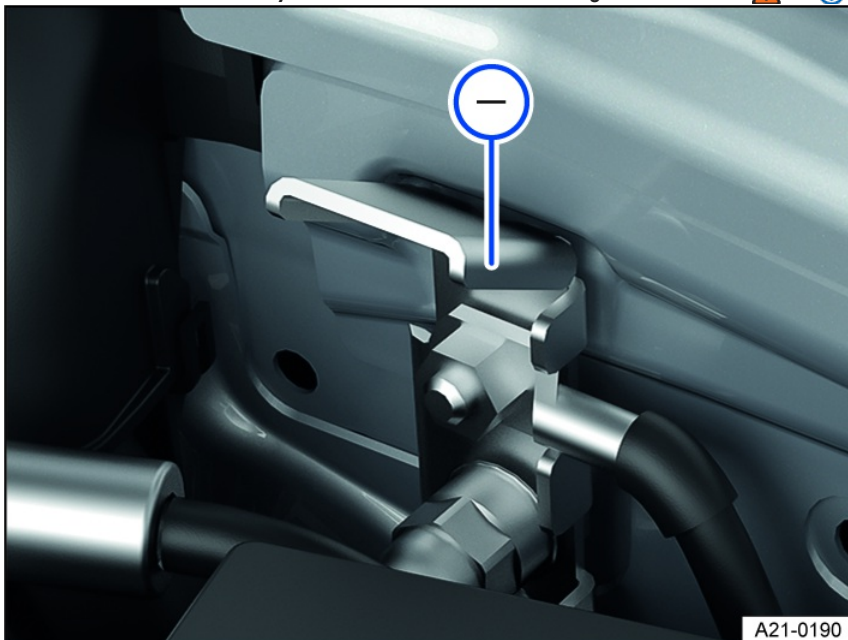

Fig. 179 In the engine compartment: jump-start point (negative terminal).
- The jump-start point (negative terminal) is for connecting the *black* jumper cable fig. 179.